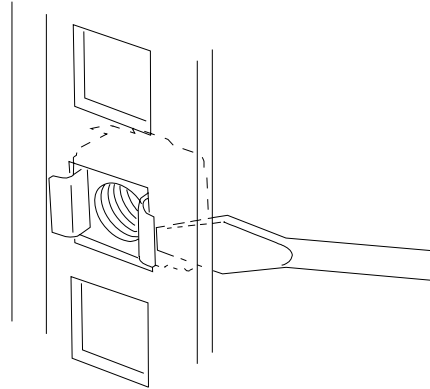

Figure 29: Inserting a caged nut
- Depending on your configuration, insert one or several caged nuts in the holes that will allow you to secure the system on the vertical rails. Insert the caged nuts in the front mounting rail as follows (see "Figure 29: Inserting a caged nut"):